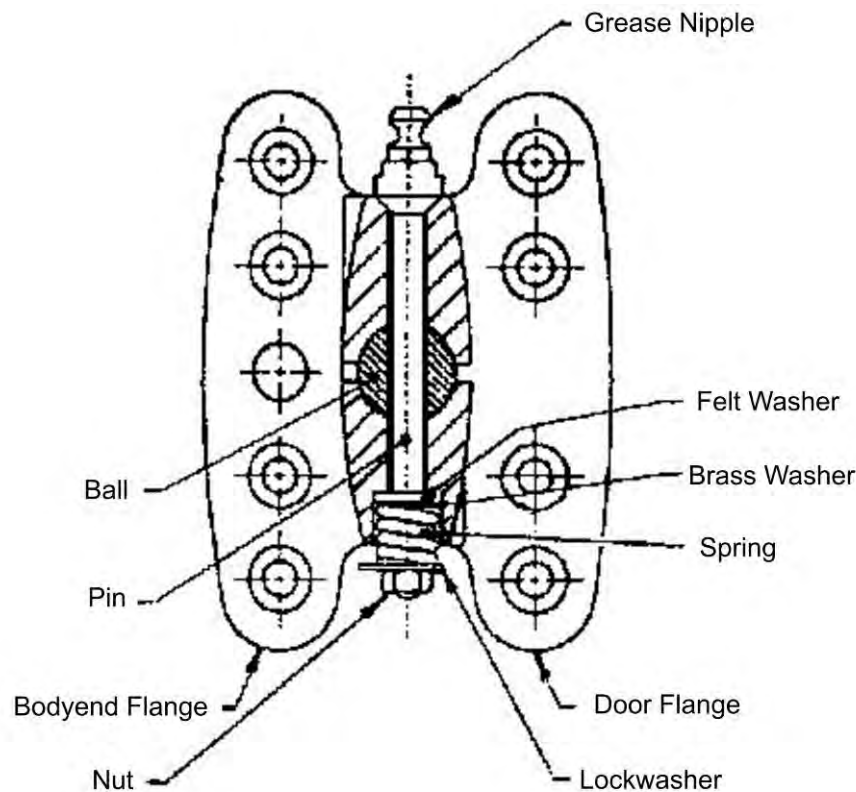

Figure 1: Arrangement of Hinge
13. Fit the felt washer, plain washer, spring, tab washer and nut on the lower end of each hinge pin (see Figure 1), tighten the nuts on the hinge pins until the tab washer just contacts the hinge body then turn back one flat, check that the door swings smoothly without binding or any free play in the hinges.